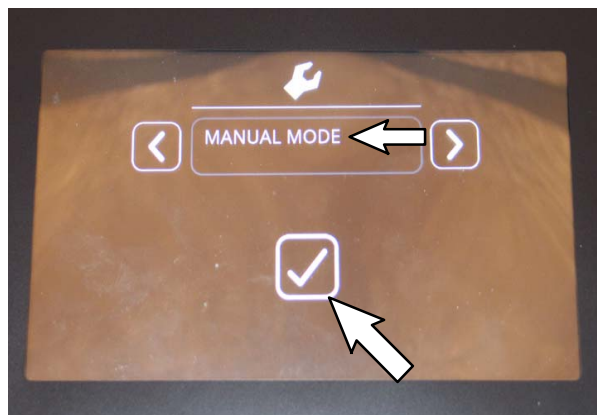

FIG. 31
31. Use the left arrow button and right arrow button to scroll to the Manual Mode. Press the Check Mark button to access the manual mode. (Fig. 31)